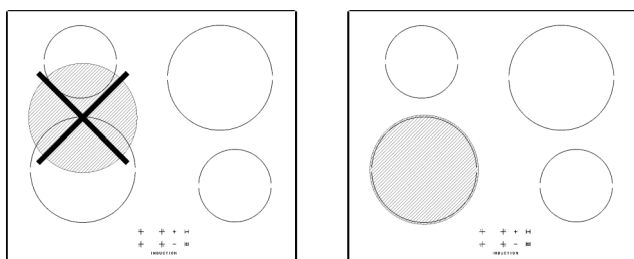

FIG. 7
see figure 7 for correct use, and remember:
- The pans must be properly centred on the heating elements (see fig. 7). If the pan is not properly centred over the corresponding printed area or is removed without switching the element off, a sensor automatically switches off the hob after a few seconds and the **U** symbol appears on the display indicating the absence of the pan. If the pan is not returned to or correctly positioned on the cooking area within 1 minute, the hob resets and if no control is pressed, it switches off after 20 seconds.